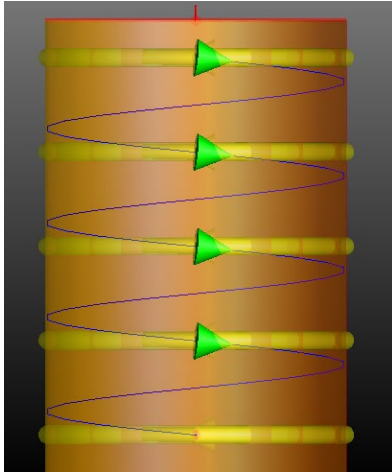

Figure 2 – Cylinder scanning using Joined Circular Bands
- **NEW** Joined Circular Bands (in-plane circles; blended helical move between bands; stylus remains on surface) (Figure 2)